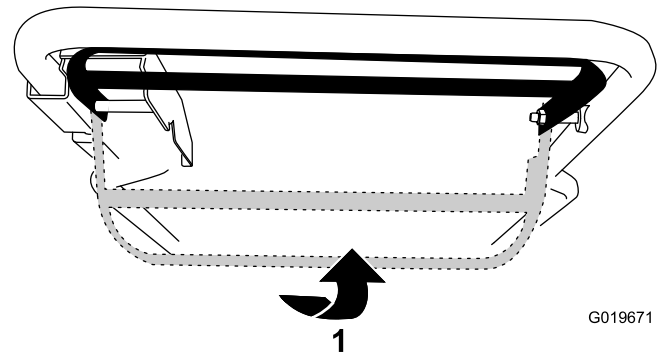

Figure 14
- **To operate the self-propel drive without engaging the blade:** Raise the blade-control bar to the handle (Figure 14).